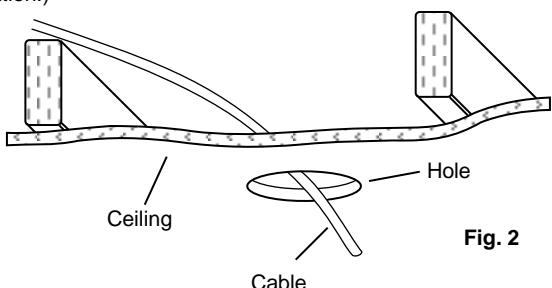

Fig. 2
3. Run non-metallic (NM) cable (also known as Romex) from your circuit breaker or fuse panel to the hole, providing 6" (15.2 cm) to 8" (20.3 cm) of slack extending below the hole. Cable having up to 12 AWG wiring may be used. (Fig. 2) (**WARNING - Use cables having wires rated 90°C or more.**)